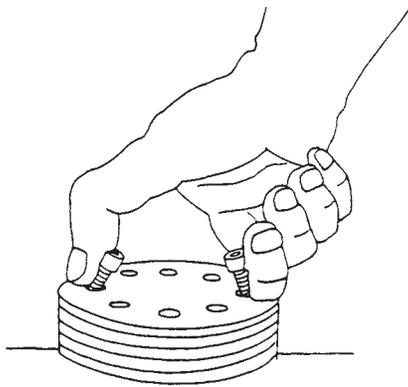

Figure 5.3A: Piston Removal
3. Loosen the piston head bolts. Remove the piston as shown in figure 5.3A by pinching two loose bolts together.
3. Remove the piston head by loosening and removing the socket head bolts holding the piston head to the piston platform (see figure 5.3A).